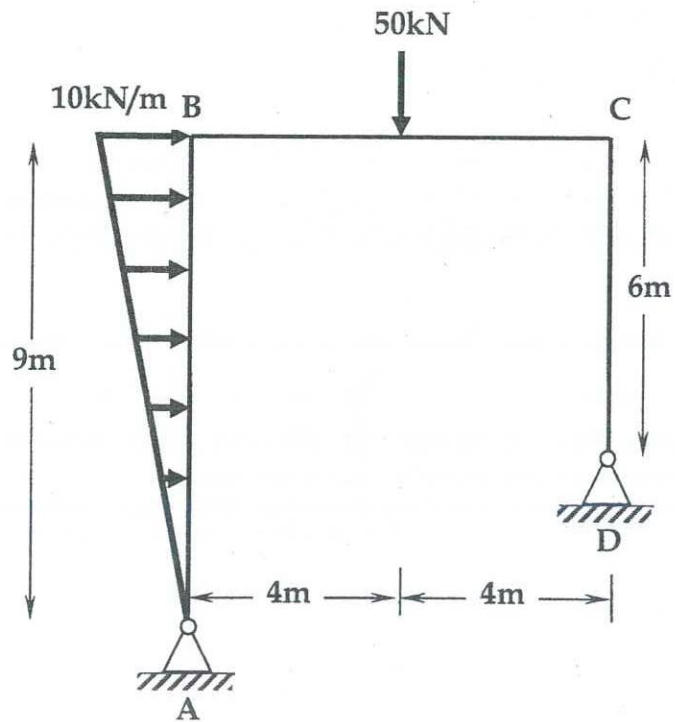

Figure Q5
c) A portal frame (ABCD) is shown in Figure Q5. Frame supports a vertical load, 50 kN, at the centre of the beam BC. Member AB is subjected to a uniformly varying load of intensity zero at the support A and 10 kN/m at the node B. Plastic moment capacity of the beam (BC) and columns (AB, CD) are 150 kNm and 75 kNm respectively. Determine;